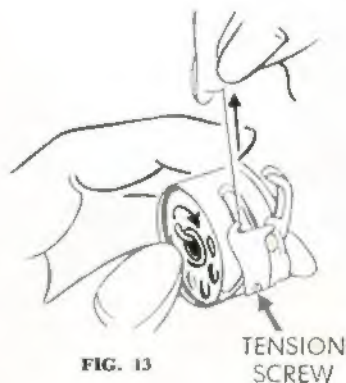
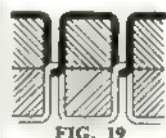

FIG. 13
FIG. 19
The thread should now pull freely from the delivery eye, but with some slight tension. In order to obtain a perfect stitch, this tension may, from time to time, have to be adjusted. By turning the tension screw (Fig. 13) to the right, this tension may be increased or, to the left, decreased. This adjustment should be made in accordance with the direction on page 14 (Figs. 19, 20 and 21).
- Adjust bobbin thread tension by turning the screw in accordance with the directions on page 9 (Fig. 13).
For perfect stitching, thread tensions both top and bottom should be sufficiently strong to lock both threads in the centre of the work (see cross section, Fig. 19).